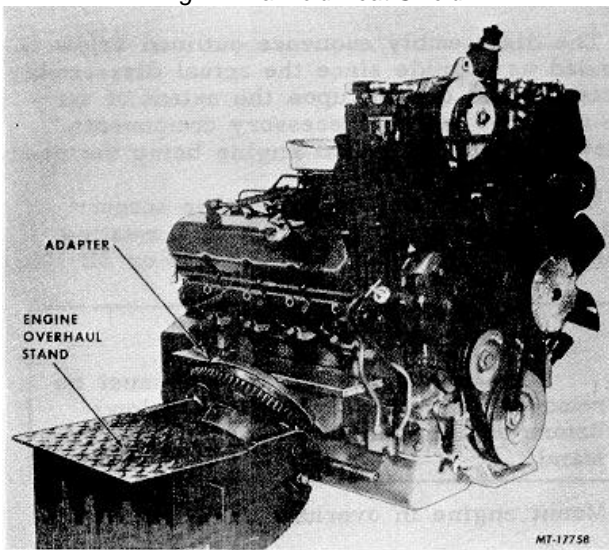

Fig. 8 Engine Mounted in SE-1962 Overhaul Stand
- f. Mount engine, with adapter, in overhaul stand (Figure 8).